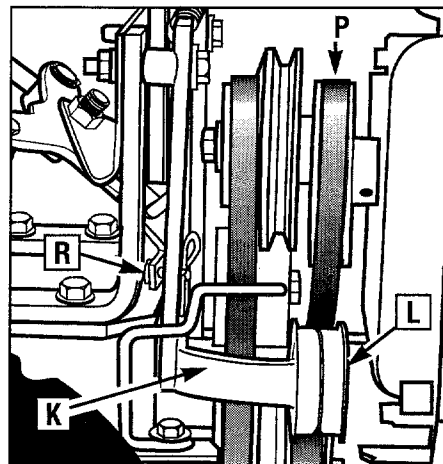

Figure 5-13: Reverse idler arm (K) and reverse pulley (L) shown on Econo-Horse model.
2. Stand at the front of the tiller and use your left hand to push the reverse idler arm (K, Figure 5-13) inward as far as possible (the reverse idler pulley [L] is attached to the reverse idler arm). Hold the idler arm in this position and look at the position of the belt tension guide mark (M, Figure 5-14) that is stamped into the face of the reverse adjustable link (N, Figure 5-14).
3. The reverse idler pulley (L, Figure 5-13) regulates the tension that is applied to the reverse drive belt (P). The following adjustment will allow the reverse idler pulley to apply more tension to a loose belt.
5. Slip the reverse belt (P, Figure 5-13) off the engine driven reverse (upper) pulley.
6. On the **right** side of the unit (as viewed from operator's position) remove the hairpin cotter from the clevis pin (R, Figure 5-13) that connects the reverse idler arm (K) to the reverse adjustable link. Push inward on the reverse idler arm (K) and remove the clevis pin (R).
8. Reinstall the reverse belt (P, Figure 5-13) on the reverse (upper) pulley, making sure the belt is located to the inside of the reverse idler pulley (L, Figure 5-13).